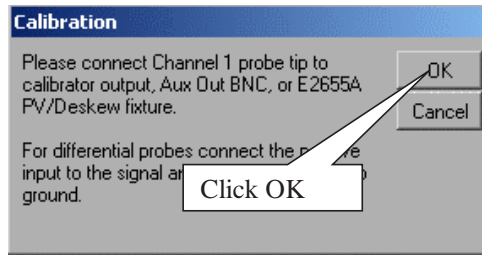

Figure 297 Calibration Window.
- 9 Referring to Figure 297 shown below, perform the following steps: